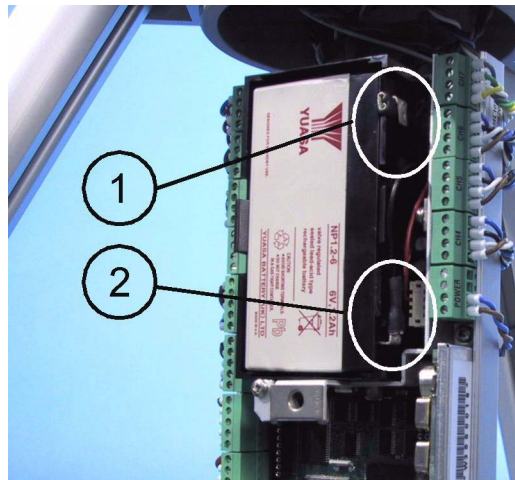

Figure 41 Battery Connectors
4. The internal battery should always be installed when the weather station is in operation. The battery supplies backup power to the station and is needed for keeping the time and date information. To insert the internal battery, you may have to bend battery terminals. Connect the flat connectors to battery terminals (numbers 1 and 2 in Figure 41 on page 61). Connect the red wire to the positive pole (+), and the black wire to the negative pole (-). The battery lead(s) is disconnected during shipping. It is recommended to disconnect the lead also if the station is not used for several weeks (no charging). When storing the station for a few days, use **SLEEP** command to reduce the power consumption and discharge of the battery.